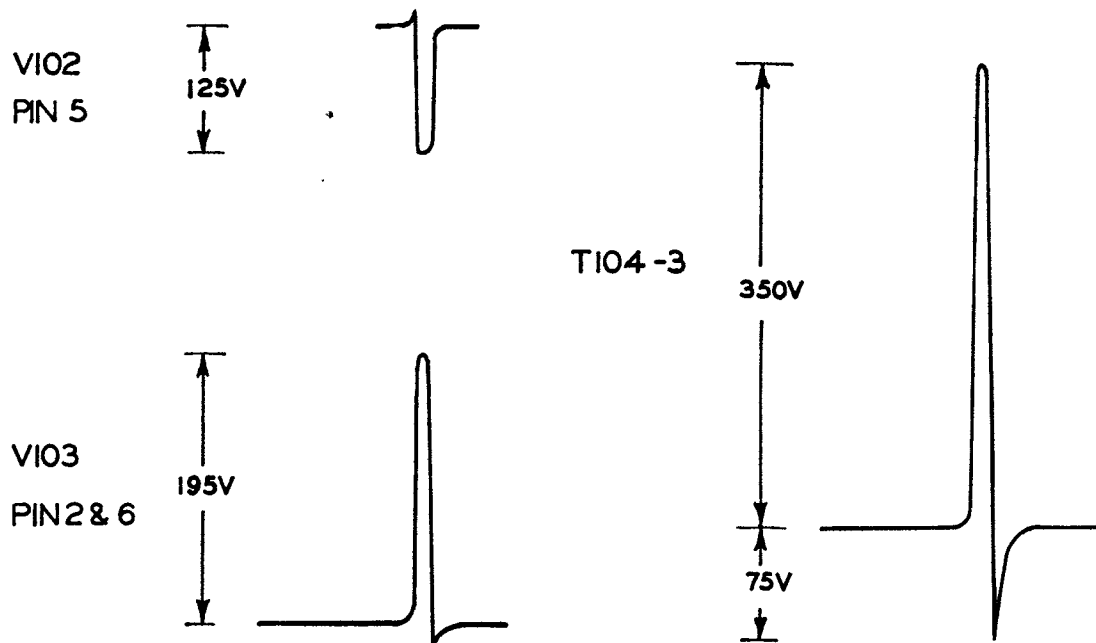

Fig. 4—Waveforms of driver unit under dynamic conditions
**179.** Due to the very short duration of the pulses in this unit, WY0212 Oscillograph C.R. No. 1 Mk. 2 is unsuitable for displaying the waveforms obtained under dynamic conditions as in fig. 4, but may be used for waveforms taken under free running conditions. Waveforms under dynamic conditions are better taken with the oscilloscope issued with the equipment. Exact time measurements can only be made on a high speed oscilloscope.
**180.** Refer to fig. 4. Connect the unit as in para. 174 (a) or (b) and check that the following waveform specifications are obtained.